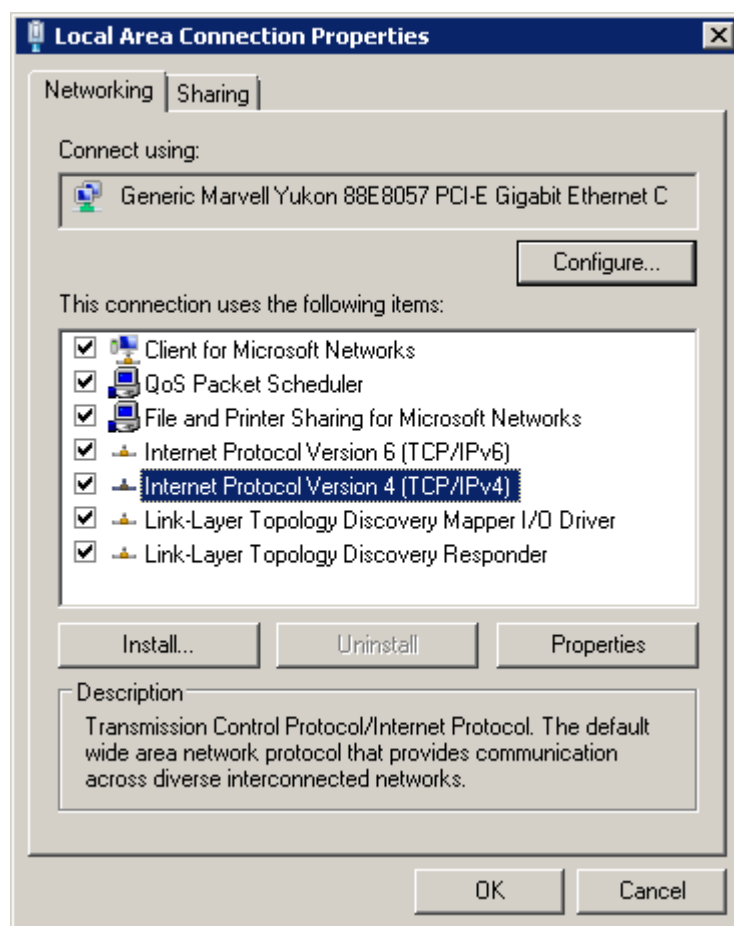

Figure 4-23 Local Area Connection Properties
- Step 2.** Click the **Properties** button to pop up the **Local Area Connection properties** window, as shown in Figure 4-23.